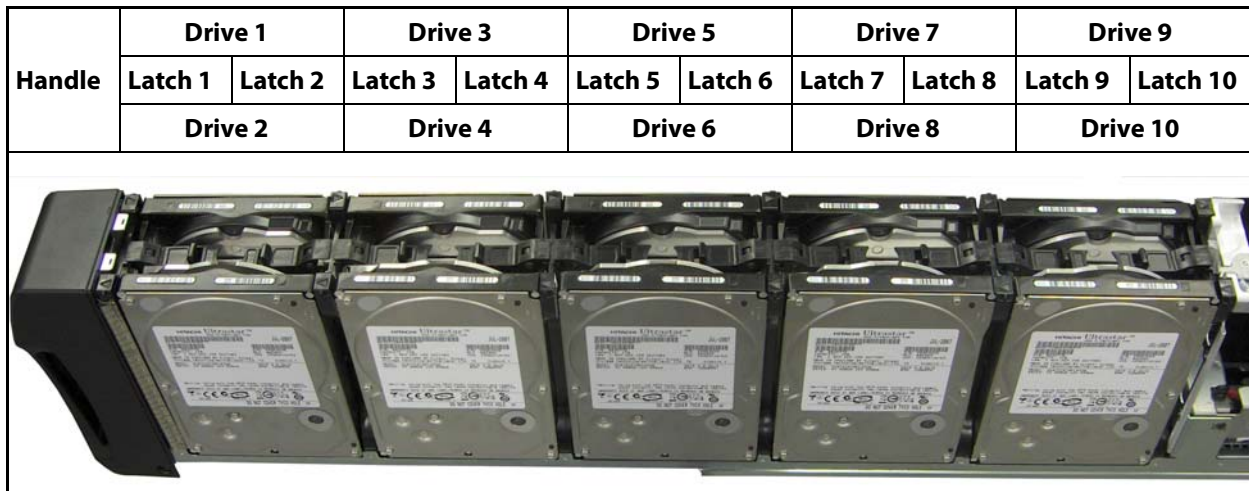

Figure 3 Identifying the drive numbers and latches in a blade.
Each of the nTier700's data drives is mounted on a drive sled for easy installation. The drive sleds are inserted into individual slots in the blade, as shown in Figure 3. When viewed from the front of the nTier700, the odd-numbered slots (1, 3, 5, 7, 9) are located on the left side of the blade; the even-numbered slots (2, 4, 6, 8, 10) are located on the right side. This numbering scheme is used to identify the drives on the Drive Status screen of the operator panel and in the BlueScale web interface.
The drives for each blade are shipped together as a set. The drives in each set are labeled from 1 to 10, corresponding the blade slots they occupied when the RAID 6 volume was originally built. Spectra Logic strongly recommends installing the drives into the blade slot corresponding to the number on the drive. Refer to Figure 3 to determine the slot numbers.
6. Look at the number on the drive to determine which drive bay to install it in (see Figure 3 on page 33).